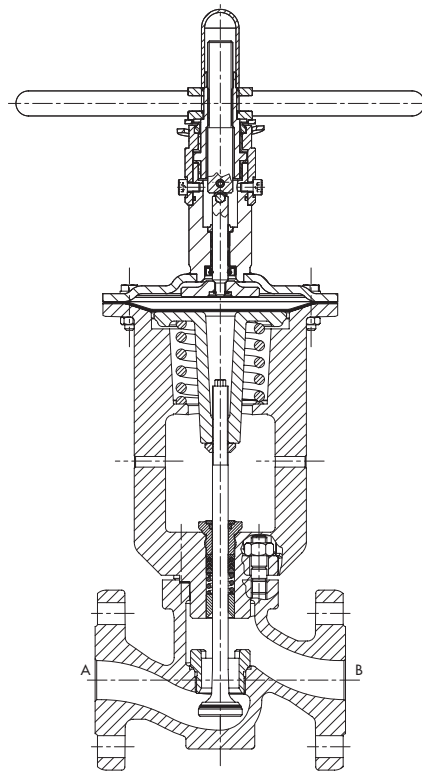

Fig. 4: Type 3351 Pneumatic On/off Valve with handwheel
1) For direction of flow B → A (see Fig. 4)